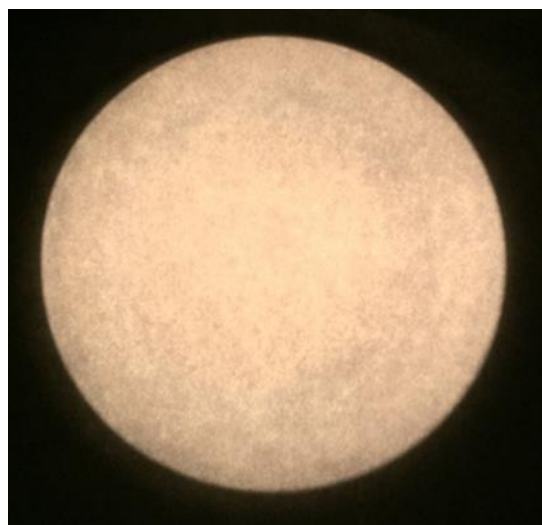

Figure 43: The light output of a properly aligned QTH lamp.
14. Move the lever so that it rotates about the cylindrical condenser lens assembly until the light on the backdrop becomes uniform and circular as seen in Figure 43. This is done by defocusing the beam, or moving the adjustment lever to what is usually its farthest position from the lamp housing.
15. Tighten the adjustment knob to lock it into position when the image seen on the backdrop matches Figure 43. If there are any dark spots or inconsistencies in brightness, repeat steps 7 through 13 for QTH lamp alignment.